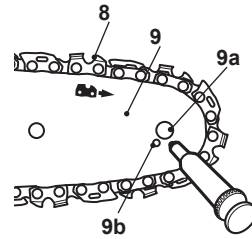

Fig. 36
2. Using a disposable lube gun, insert the needle nose into the lubrication hole (9b) (Fig. 36) and inject grease until it appears at the outside edge of the sprocket wheel (9a).
3. Rotate the saw chain (8) by hand. Repeat the lubrication procedure until the entire sprocket wheel (9a) has been greased.